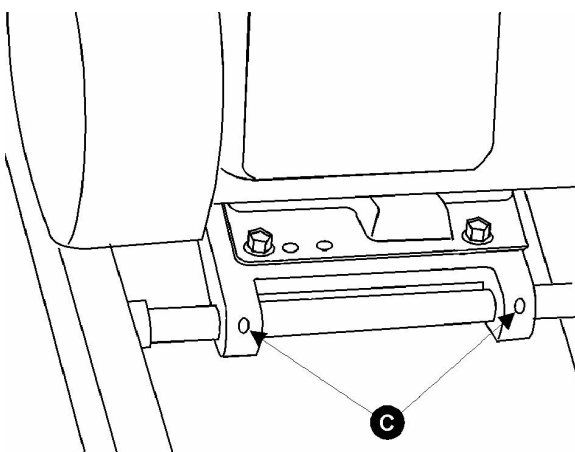

Figure 9
1. Using a straight edge, align the motor pulley (A, Fig. 8) and cutterhead pulley (B, Fig. 8). The motor plate can be moved for alignment by loosening the set screws (C, Fig. 9) in the motor plate.